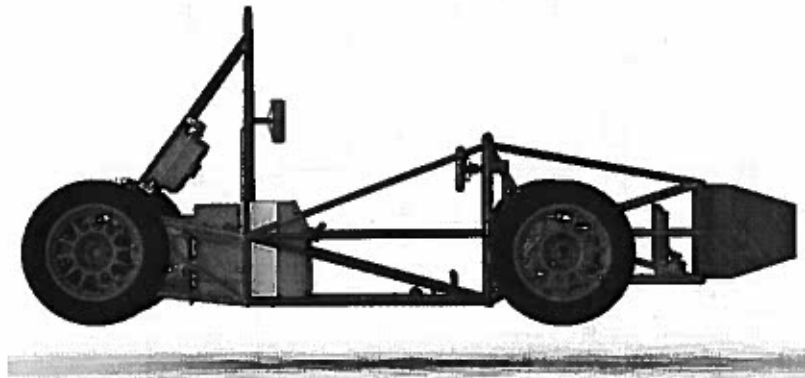

Figure 3: Full Vehicle, Side View
- *Figure 3 – A wiring diagram superimposed on a top view of the vehicle showing the locations of all major TS components and the routing of TS wiring.*